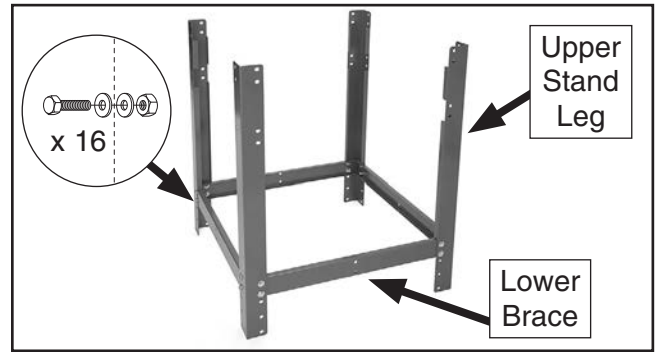

Figure 4. Initial assembly of upper stand legs connected to lower stand braces.
1. Connect upper stand legs with lower braces using (16) $\frac{3}{8}$ "-16 x $\frac{3}{4}$ " hex bolts, (32) $\frac{3}{8}$ " flat washers, and (16) $\frac{3}{8}$ "-16 lock nuts (see **Figure 4**)—only finger-tighten for now.